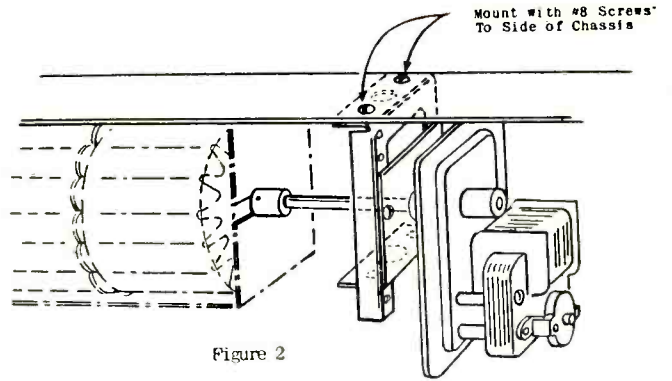
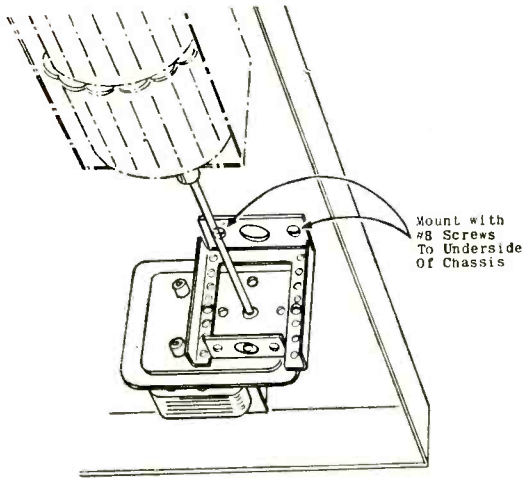

Figure 2
Figure 3
Select the location to be used for mounting the brackets (Figure 1). Various designs of chassis allow for different locations for the mounting brackets. In Figures 2, 3 and 4 you will see three different locations and methods for mounting the brackets. These three locations and methods cover nearly all possibilities, however, the brackets are so constructed that they allow for wide range of positioning in increments of 1/16".
3. Where the methods in Figure 2 or Figure 3 apply, take the following steps: